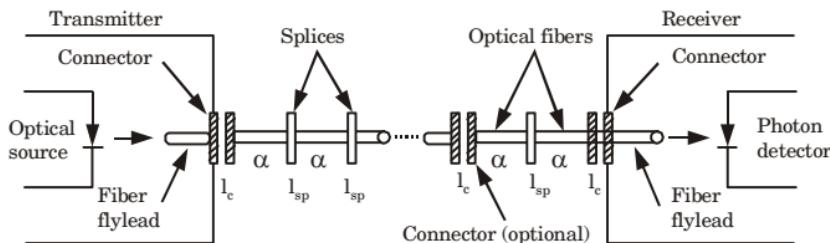

Fig. 7. Optical power loss model for a point-to-point link.
- An optical power loss model for a point-to-point link is shown in Fig. 7.